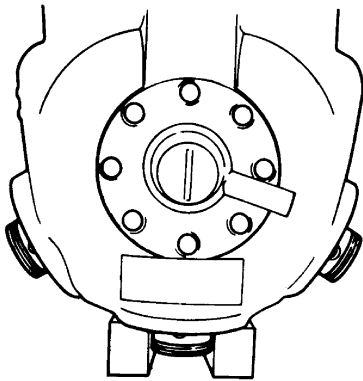

Figure 3-12. Piston Rings Removed
4. Push the piston rods down so that the piston rings extend below the cylinders. Remove and discard piston rings. Use only new rings when reassembling the compressor. (See Figure 3-12.)